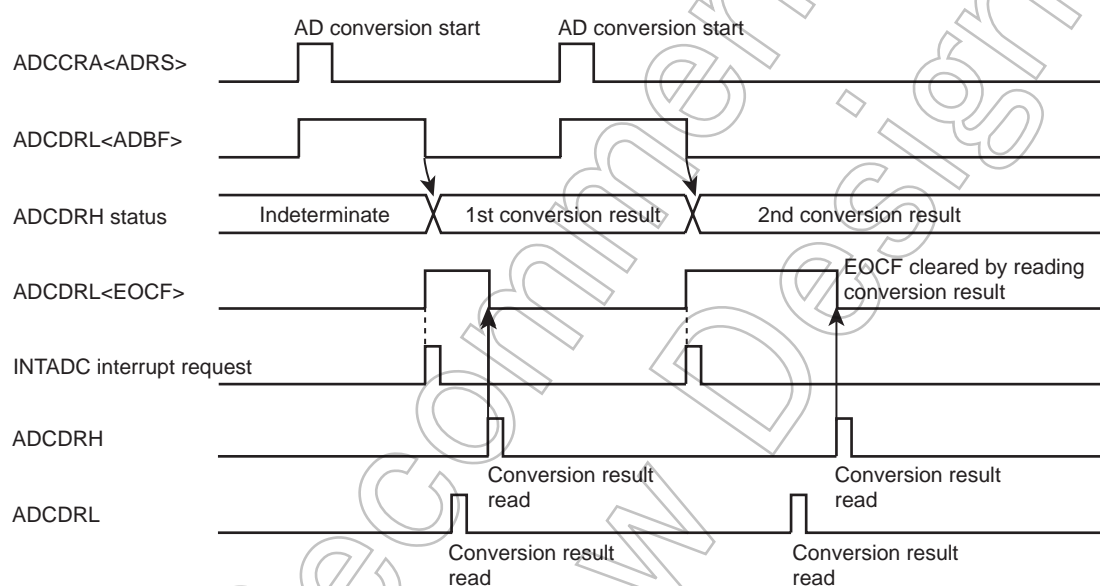

Figure 16-2 Software Start Mode
- Set the AD conversion time using AD conversion time (ACK). For details on how to set the conversion time, refer to Figure 16-1, Figure 16-2 and AD converter control register 2.
- After setting up (1) and (2) above, set AD conversion start (ADRS) of AD converter control register 1 (ADCCRA) to "1". If software start mode has been selected, AD conversion starts immediately.